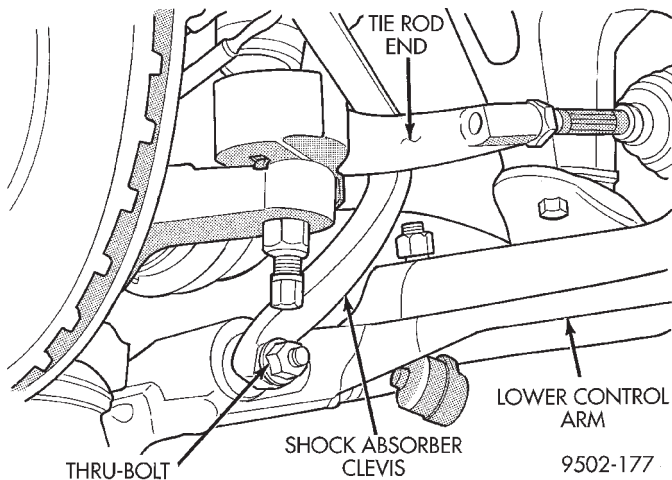

Fig. 7 Clevis To Lower Control Arm Attaching Bolt
- (9) Remove the nut and thru-bolt (Fig. 7) attaching the shock absorber clevis to the lower control arm.
- (10) Remove the clevis from the shock absorber by carefully tapping the clevis off the shock absorber using a soft (brass) drift.
(4) Install the clevis bracket to lower control arm thru-bolt (Fig. 7). Do not tighten or torque the thru-bolt at this time.